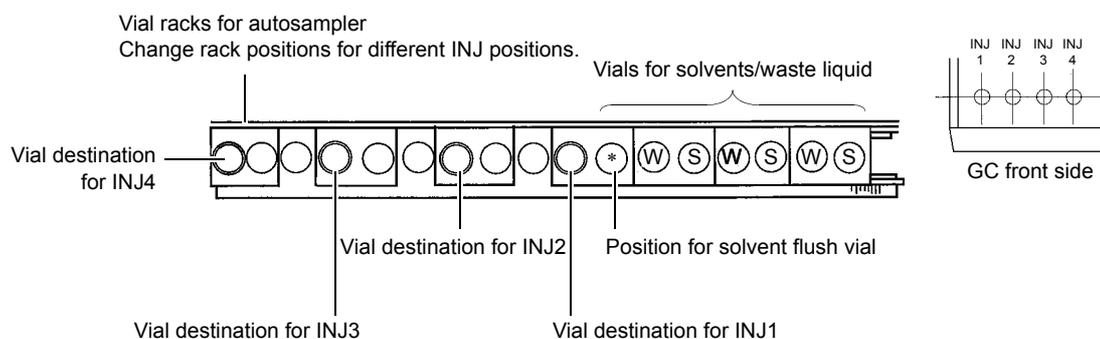

Figure 2-66
Regardless of the INJ position, the solvent vial for solvent flush method should be set at the position marked with (\*) in Figure 2-66. Therefore, when using this option in the solvent flush injection mode, it is required to prepare another sampler vial rack for the solvent flush vial.
- 1 Mount the vial rack for autosampler to the "vial destination for INJ2" described in Figure 2-66.